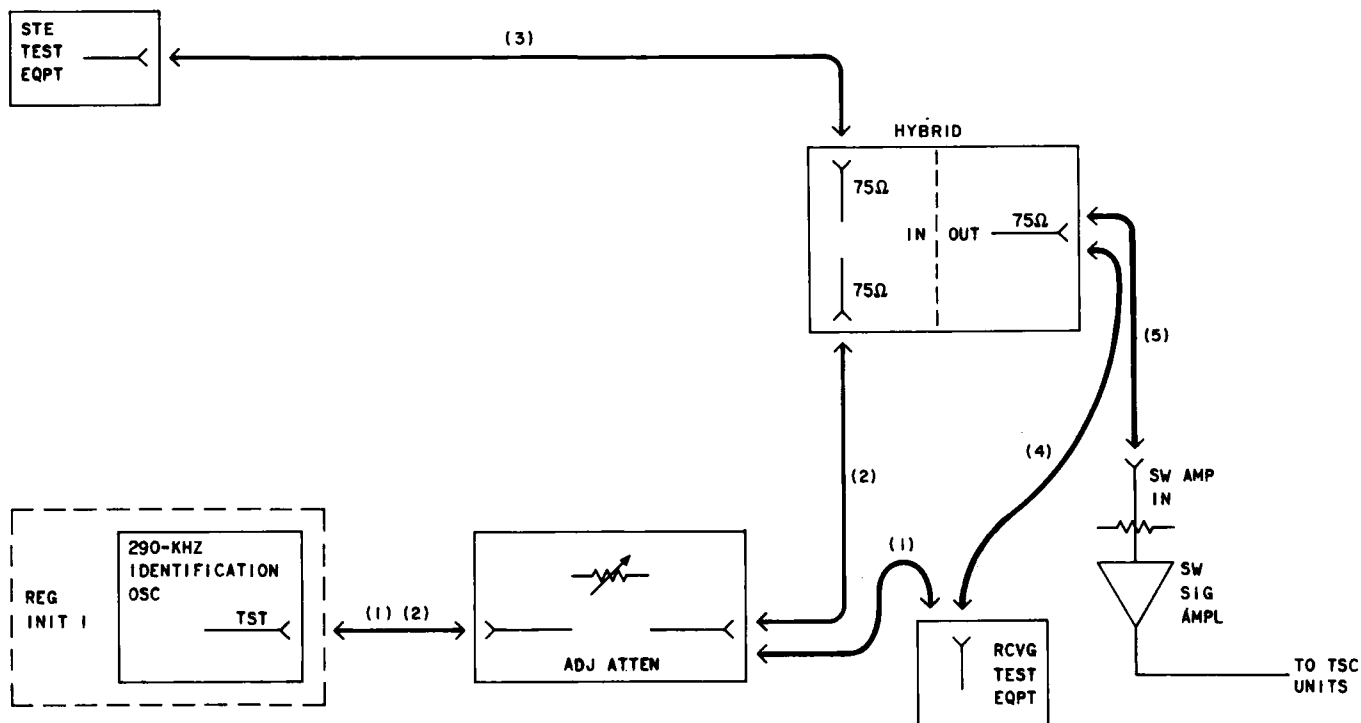

Fig. 3—Test for Inhibiting the Release of a Transmitting Switch
| 37                                                         | At the regular initiator (REG INT 1), insert a patch cord and an adjustable attenuator from the 290-kHz signal oscillator TST jack into the RTE [patch (1), Fig. 3]. |
| 40   | <p>At the free 3-port, 75-ohm test hybrid (2 inputs and 1 output), insert the 290-kHz signal (-67 dBm) into one of the inputs. Then insert the 282-kHz signal (-60 dBm) into the other input [patches (2) and (3), Fig. 3].</p> <p>Note: The hybrid must be free of service-affecting equipment.</p>                                                                                                                                                                                               |
| 41   | <p>Insert a patch cord from the RTE into the test hybrid OUT jack, and measure the signal power of the following frequencies [patch (4), Fig. 3]:</p> <ul style="list-style-type: none"> <li>• 282 kHz (-63 dBm)</li> <li>• 290 kHz (-70 dBm).</li> </ul> <p>Note 1: Adjustment of the STE may be necessary to obtain correct level (-63 dBm) of the 282-kHz signal.</p> <p>Note 2: Adjustment of the adjustable attenuator may be necessary to obtain correct level (-70 dBm) of the 290-kHz signal.</p> |
| 44   | <p>Insert a patch cord from the test hybrid OUT jack into the SW AMP IN jack [patch (5), Fig. 3].</p> <p>Requirement 1: TS OPR lamp is lighted in the L3 miscellaneous control bay or L4 control connecting bay.</p> <p>Requirement 2: The transmitting switch associated with the line under test operates.</p>                                                                                                                                                                                          |